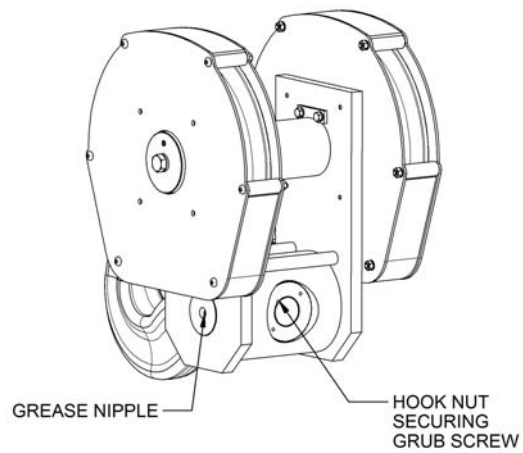
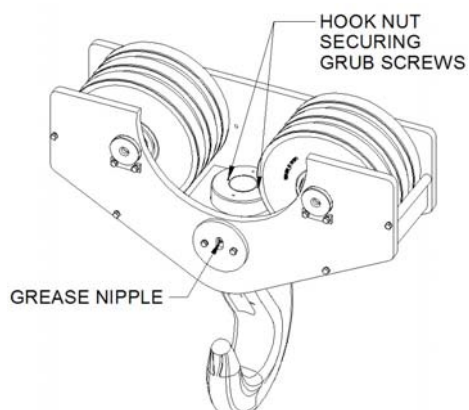

Figure 48 – 4 Fall Bottom Block, Hook Nut, Grubscrew, Grease nipple
Figure 50 – 12 Fall Bottom Block, Hook Nut, Grubscrew, Grease nipple
- Check the security of the hook nut and it's securing grub screw (Figure 48 to Figure 50).
- Grease the hook thrust bearing as required in the lubrication schedule (see section 5.6.1 / Figure 48).